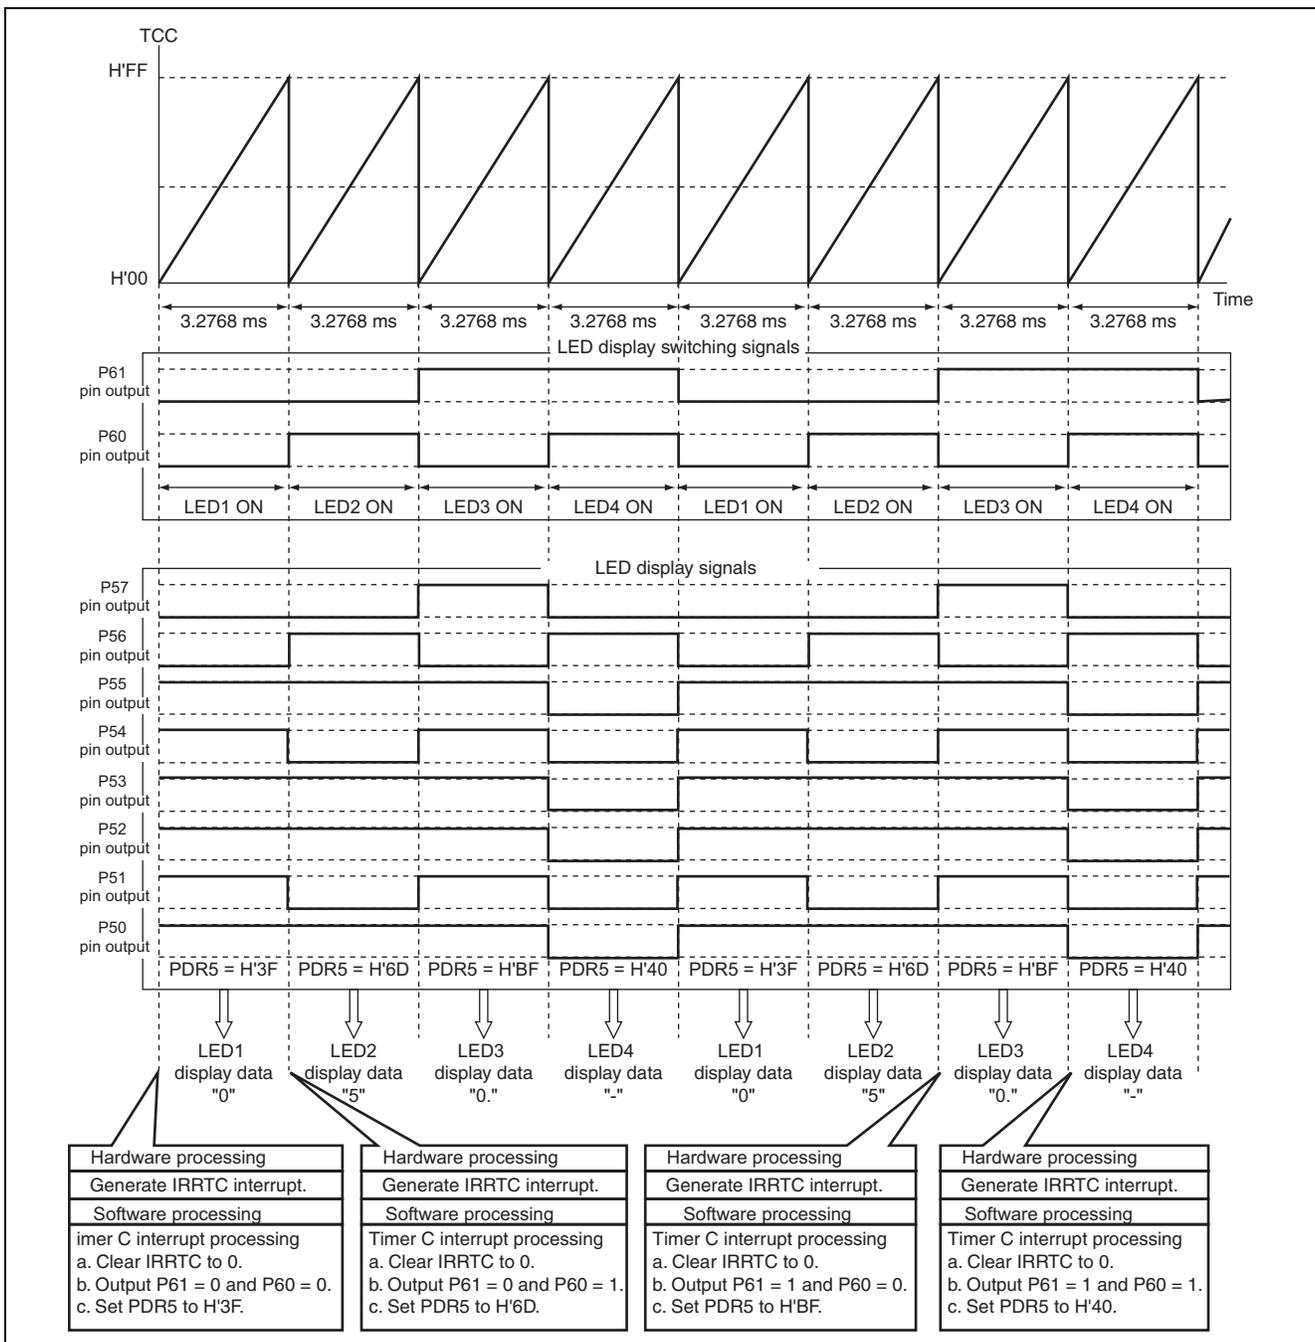

Figure 3.2 Operation Principle of 7-Segment LED Display Control
2. The principle applied in controlling the 7-segment displays is explained below. Figure 3.2 depicts the situation where "-0.50" is being displayed on LED4 to LED1. As the figure shows, the next display in sequence of LED1 to LED4 is lit up each time a timer-C overflow period elapses, creating a dynamic display on the 7-segment LEDs